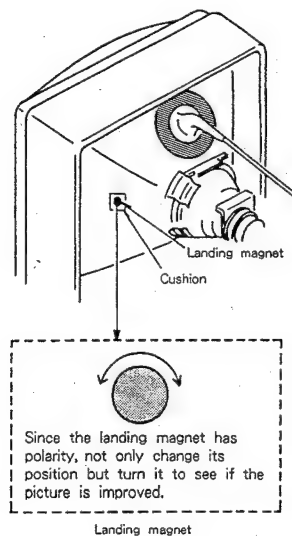

Fig. 1-2
- (1) Receive a green raster signal from the pattern generator.
- (2) Adjust the two purity magnets by opening them at the same angle so the center of the screen becomes green. Also adjust them so the widths of the color at both edges are equal.
- (3) Tighten the rotary magnet retaining ring.
- (4) Move the deflecting coil gradually backwards (towards the neck) and stop it when the whole screen becomes green.
- (5) Perform the same check for monochromatic red and blue.
- (6) Observe the picture and correct the tilt of the deflecting coil and tighten the deflecting coil retaining screw. If color unevenness remains at the circumference of the screen, use a landing magnet to correct it. (See Figure 1-2)